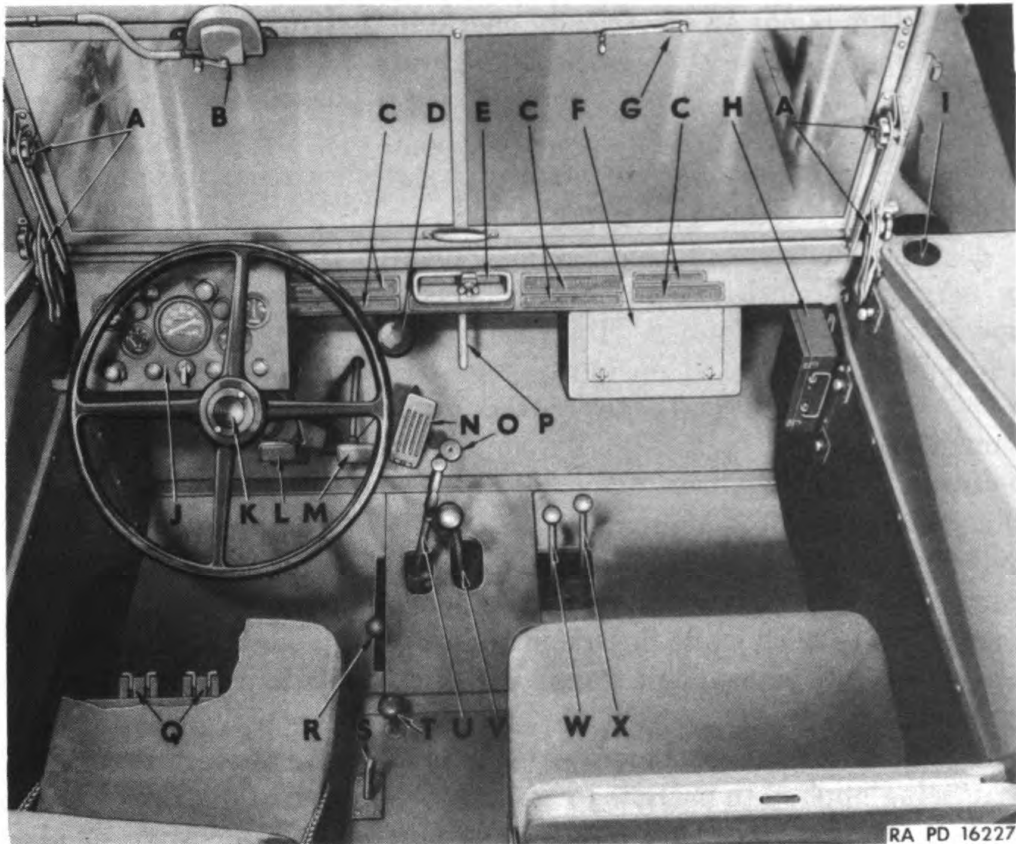

Figure 10—Driver's Compartment
(1) The basis of coolant for engine cooling system is fresh, clean water to which should be added inhibitors (rust preventives) and anti-freeze solutions (at temperature below 32°F.). **Do not use salt water in cooling system except in extreme emergency** — then drain and flush when fresh water is available.
(2) Radiator filler cap is accessible after engine compartment hatch has been raised. This cap is conventional notch type and care should be taken when removing it if engine is hot.
(3) If engine overheats from lack of water, do not add cold water immediately. Radiator should only be filled after boiling has ceased and engine cooled down, then add water slowly, preferably with engine running. Cold water should not be poured into system when engine is hot as such change in temperature may damage cylinder head and block.
a. Operating instruments, switches, and gauges are, with few exceptions as noted, mounted on instrument panel (Figs. 10 and 11), located directly in front of driver. Location and purpose of these controls are outlined in succeeding paragraphs.
n. Windshield Wiper Control. Vacuum windshield wiper is mounted on left side of windshield. Control button is provided for operation of this wiper as shown in Fig. 10. Button is pulled out to turn windshield wiper on, and pushed in to turn wiper off. A hand operated wiper is mounted on right-hand section of windshield.
a. Vehicle operating controls are located in driver's compartment (Fig. 10). Location and purpose of these controls are described in succeeding paragraphs. Actual operation of each control under various conditions is explained in respective operation paragraphs.
(1) Accelerator pedal (accessible to driver's right foot) is used to accelerate or decelerate engine, depending upon degree pedal is depressed or released. When pedal is completely released, engine will operate at idling speed. Acceleration from idling to governed speed is obtained by degree pedal is pressed down. Corresponding degree of deceleration is obtained by releasing pedal.